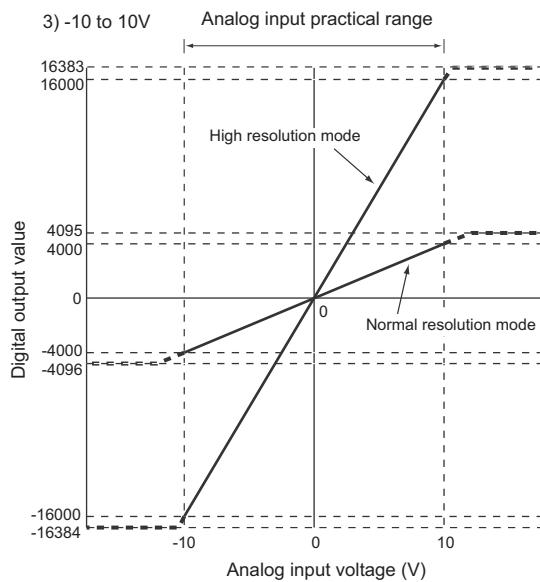

Fig.3.1 Voltage input characteristic of Q68AD-G (2/2)
- (1) Set within the analog input range and digital output range for each input range. If these ranges are exceeded, the maximum resolution and accuracy may not fall within the performance specifications. (Avoid use shown by the dotted lines in Fig.3.1.)
- (2) Do not input an analog input voltage of -15V or less and 15V or more. The input elements may be damaged.
- (3) Set the offset/gain values for the User range setting marked within a range which satisfies the following conditions.